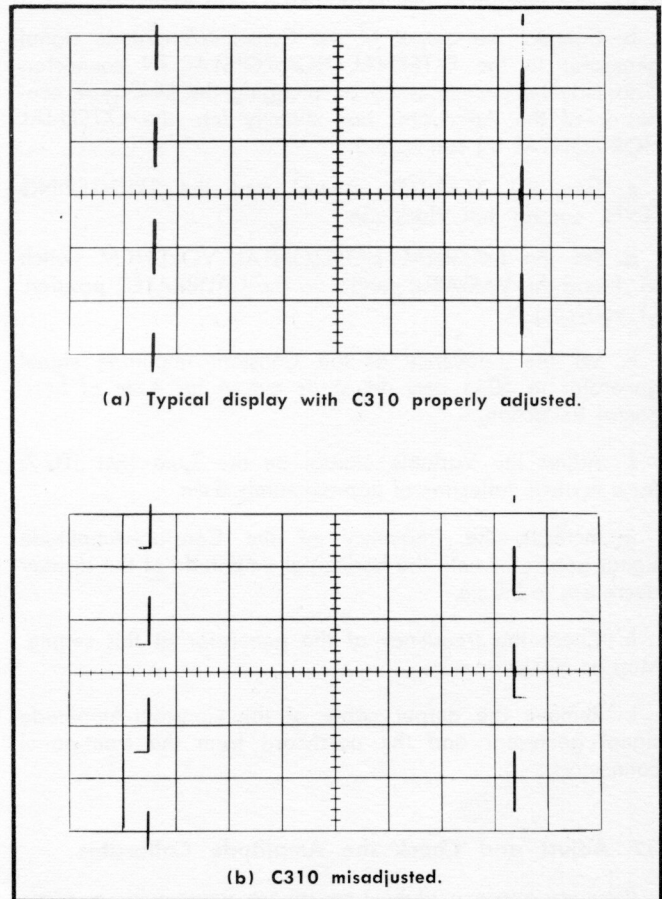

Fig. 6-10. Typical waveform displays with C310 and C313 properly adjusted and misadjusted.
d. Adjust the TRIGGERING LEVEL control for a stable display and the Type 1M1 (TU-7) Variable control so several cycles of the Calibrator waveform are displayed (Fig. 6-10).
e. Adjust C310 for optimum waveform (see Fig. 6-10). Should not have more than 5% aberration or tilt.